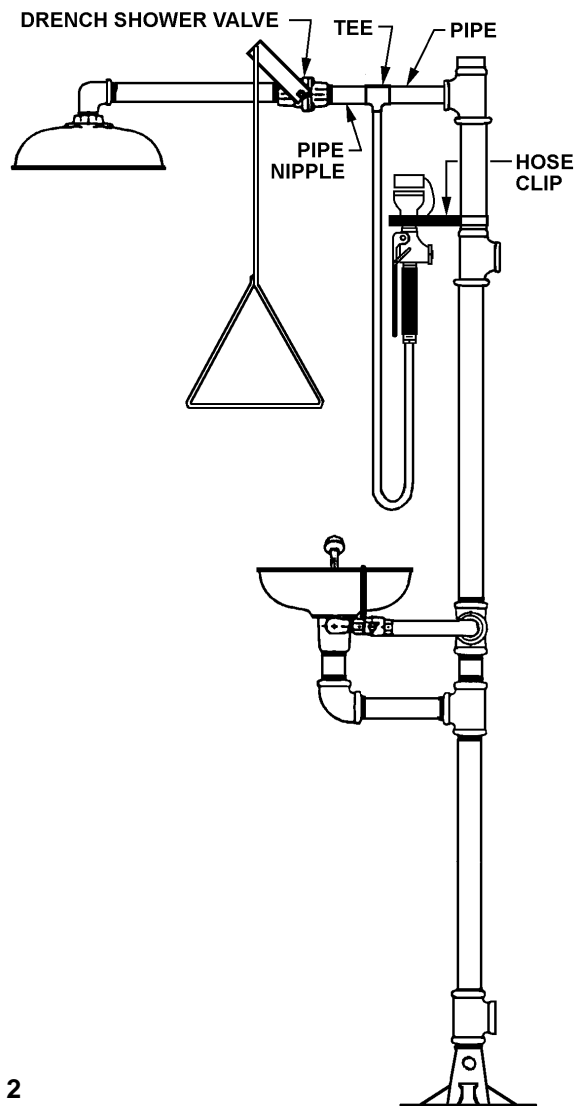

Figure 2
1. Connect the pipe nipple and the pipe tee between the drench shower valve and the pipe (see Figure 2).